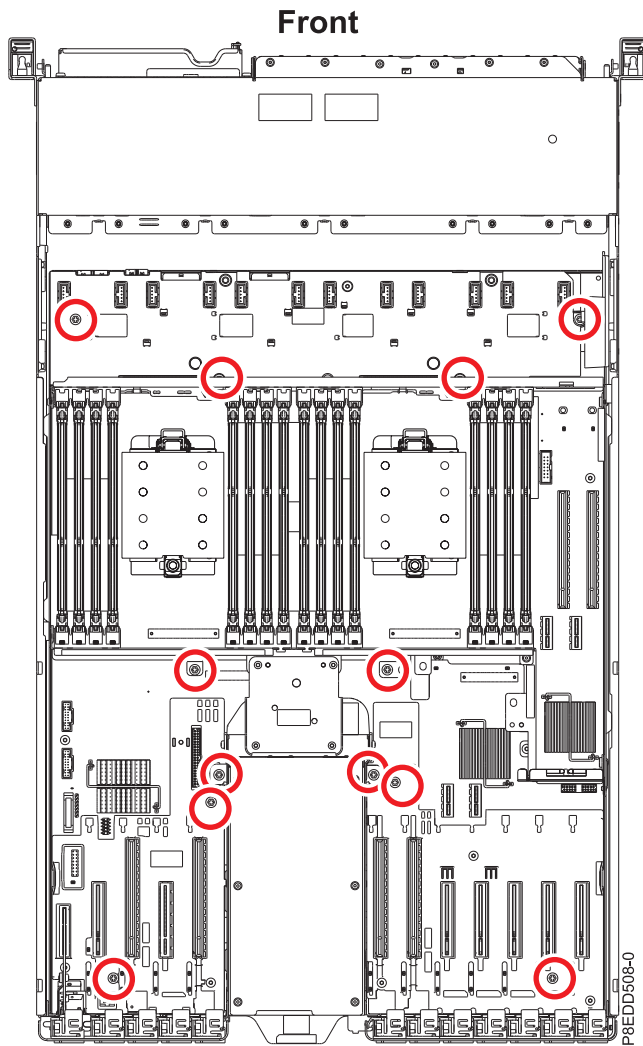

Figure 121. System backplane screw locations
- c. Using a Phillips screwdriver, install and tighten 12 screws to secure the backplane to the base of the chassis. See Figure 121 on page 123.